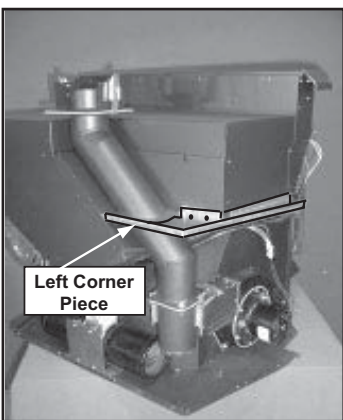

Figure 21.1
8. Install the left shroud corner with 2 screws into the hopper body and 1 down into filler piece. **Figure 21.1.**